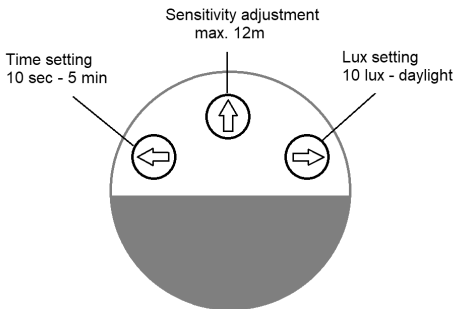

Fig. 2
- Push the PIR lid down to uncover the PIR adjustment dials (see Fig. 2)